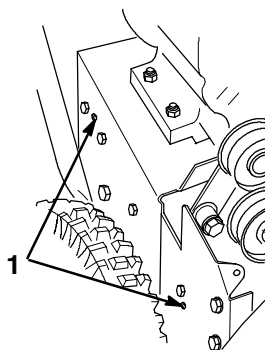

Figure 30
16. Install the two screws that secure the auger brake arm assembly. Make sure that the tabs fit into the holes in the left side of the snowthrower (Fig. 30).
13. Install the two screws that secure the auger brake arm assembly. Make sure that the tabs fit into the holes in the left side of the snowthrower (Fig. 30).